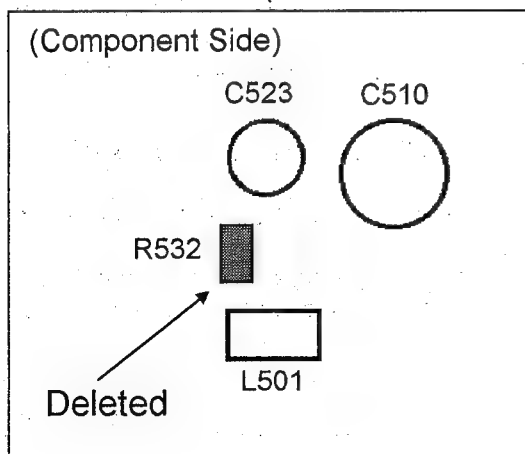

Fig. 1 Page 3-7 (G-3)
- 1). Delete resistor R532 (1/10W, 2.2K $\Omega$ ) from the component side as shown in figures 1 and 4.
- 6). Add a Silencer Pad A (VMT0871) to the Cleaner Base 1 Unit by adhesive as shown in figure 1.